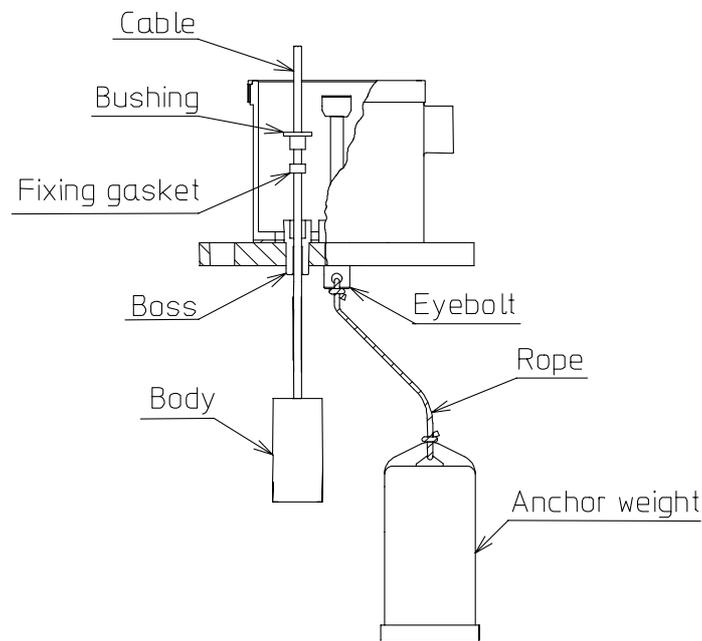

Fig. 7
- (1) Tie one end of rope to the eyebolt on flange, and another end of rope to the anchor weight in accordance with tank depth.
- (2) Remove the terminal box cover.
- (3) Pass the cables into terminal box through the boss located on flange.
- (4) Put the fixing gasket and the bushing into the cable. (Refer to Fig. 7)